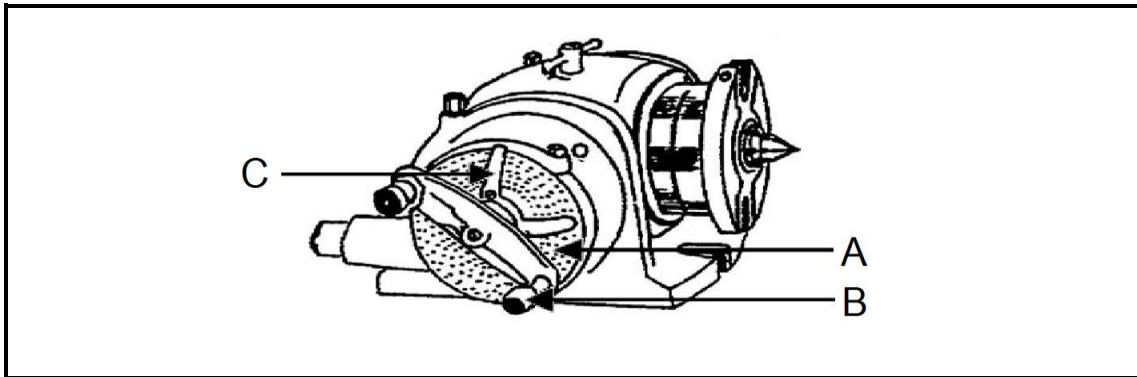

FIGURE 5
12.2 FIGURE 5 shows a dividing head used on a milling machine. Name the parts labelled A–C. Write only the answers next to the letters (A–C) in the ANSWER BOOK.